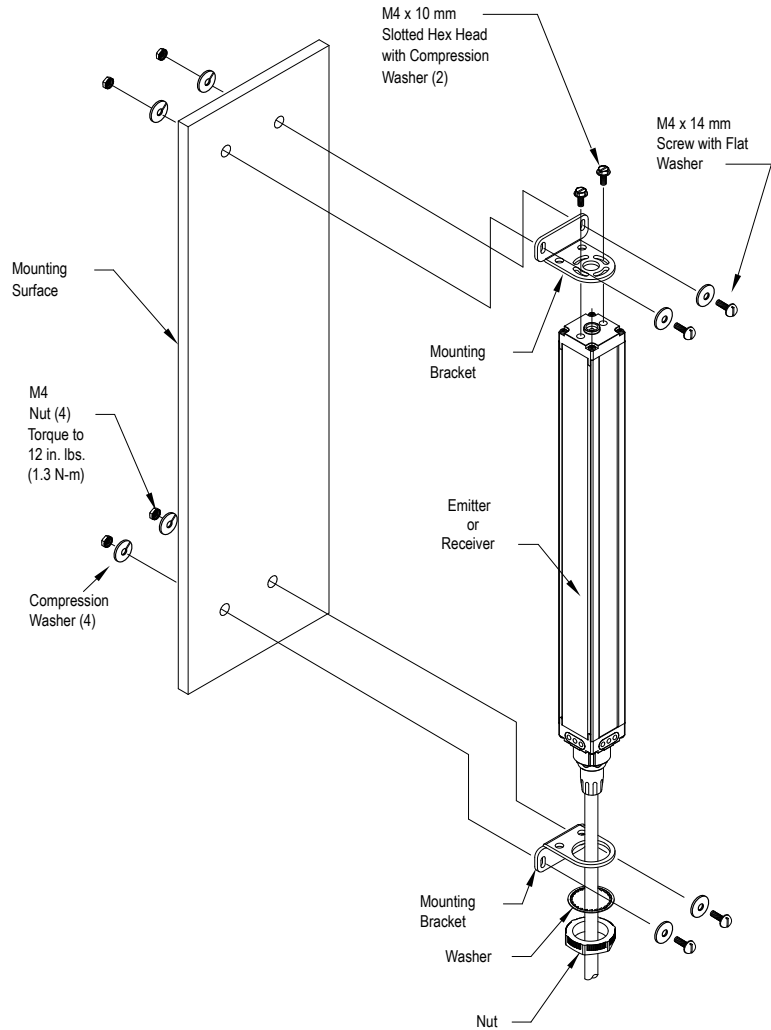

Figure 4. MINI-ARRAY emitter and receiver mounting hardware
1. Mount the emitter and receiver in their mounting brackets (see Figure 4 on page 7).